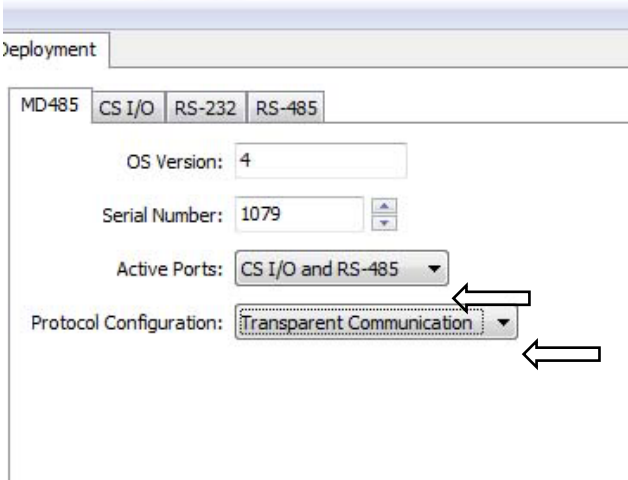

FIGURE 8-8. MD485 Deployment tab
- 4. Click the **MD485** tab. Select **CS I/O** and **RS-485** in the **Active Ports** box. Select **Transparent Communication** in the **Protocol** box (FIGURE 8-8).